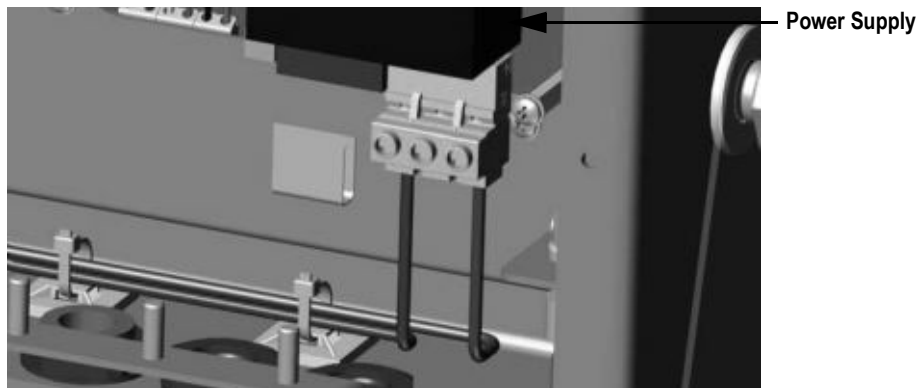

Figure 2-19. Connect DC Wiring
3. Run the other two wires up the side of the indicator and connect the three pin plug (PN 15888) to the power supply board, see Figure 2-19 and Table 2-3 on page 23.